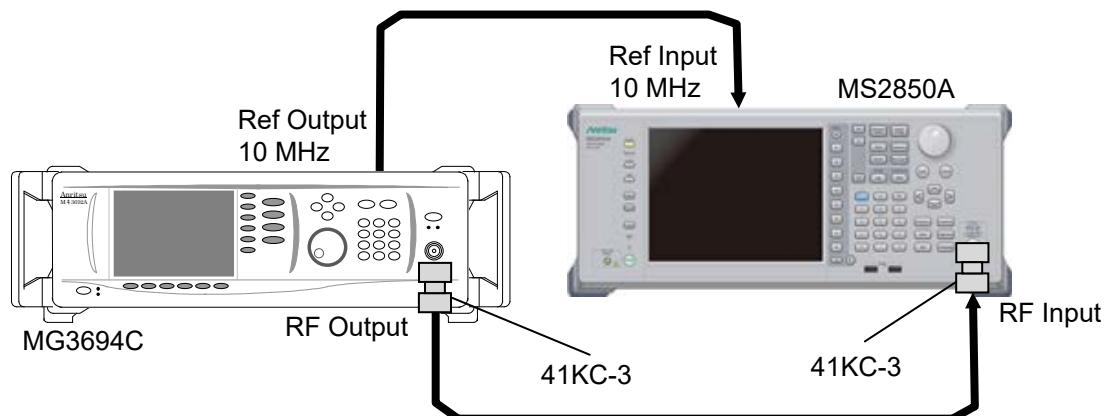

Figure 6.2.9-1 Input attenuator switching error
4. Connect the equipment in reference to Figure 6.2.9-1.
6. Set frequency of SG to F1+1kHz and set the level to -19 dBm in accordance with Figure 6.2.9-1, then turn on RF output.
7. Set center frequency of MS2850A to F1+1 kHz and set attenuator to 10 dB, then set Frequency Band Mode in accordance with Figure 6.2.9-1.